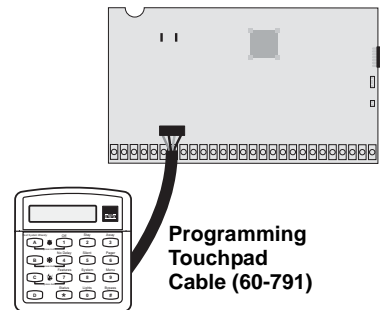

Figure 29. Connecting a Programming Touchpad
3. Connect the plug on the cable onto the panel programming touchpad header (see Figure 29).